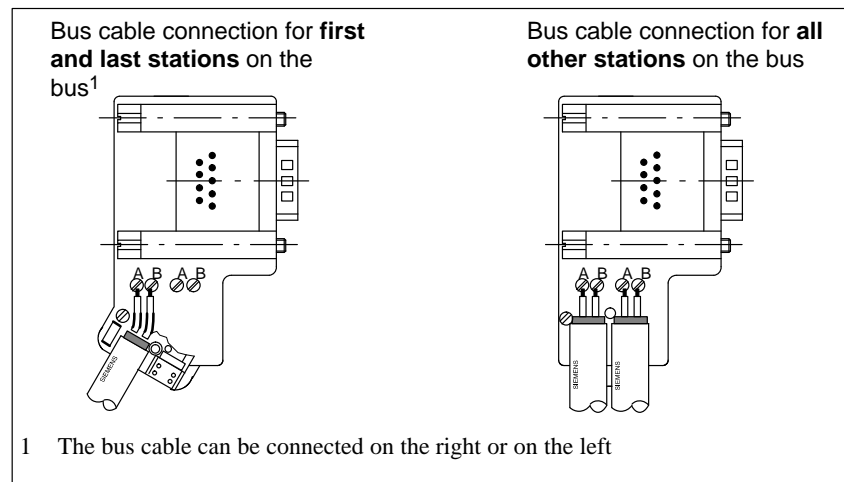

Figure 3-15 Connecting the Bus Cable to the Bus Connector (6ES7 972-0B.20 ...)
5. Insert the green and red wires into the screw-type terminal block as shown in Figure 3-15.